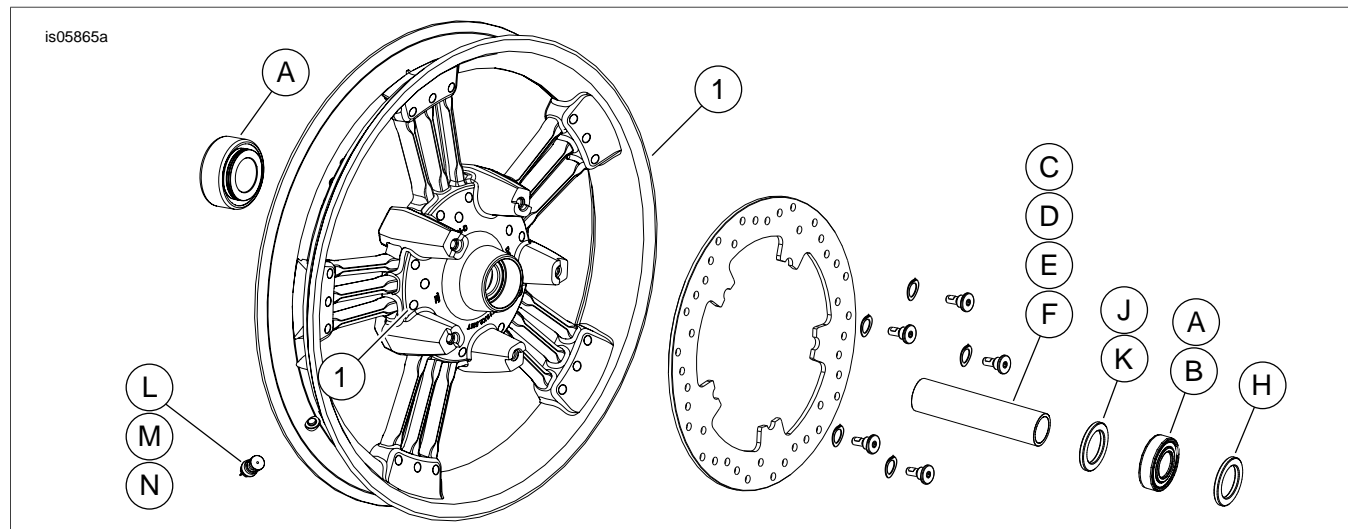

Figure 2. Service Parts: Front Magnum 5 Wheels (19-inch shown)
2. See Figure 2. Install valve stem assembly (L or M) on wheel. Refer to TIRES in service manual.